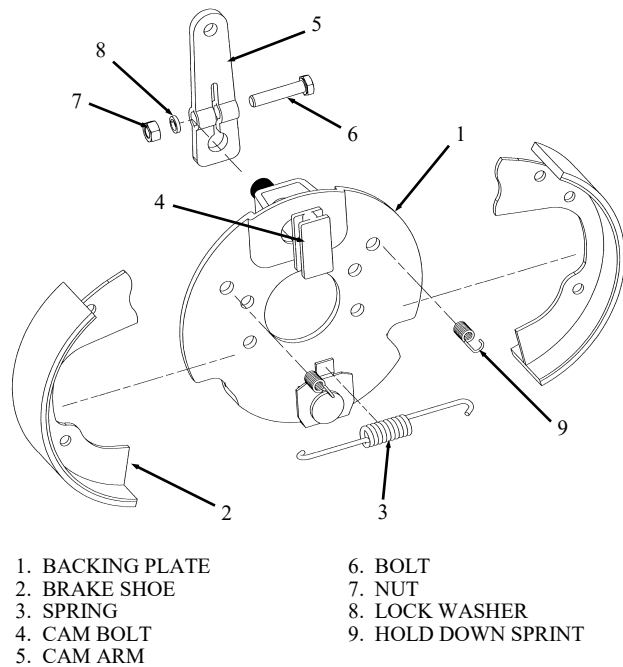
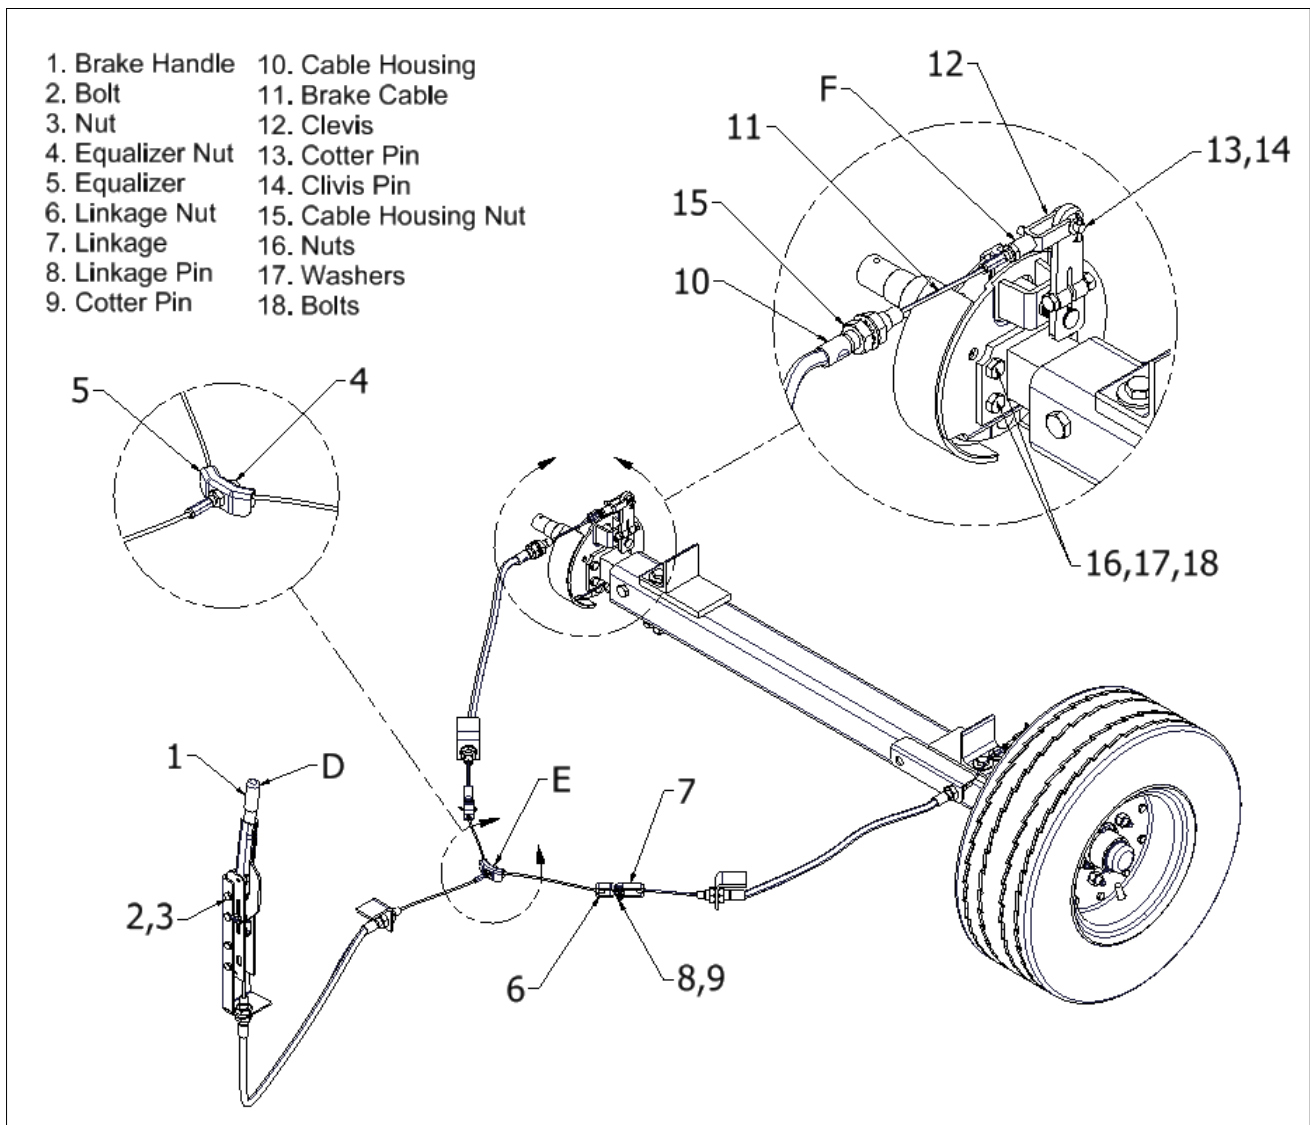

Figure 5-9. Mechanical Parking Brake
Figure 5-11. Brake Handle And Cable Assembly
5.3.4.3.1 Brake Handle and Cable Assembly. The brake handle and cable assembly only need to be disassembled to the point that the repair is needed. These instructions start at the wheel assembly and progress toward the brake handle. (See Figure 5-11).
- Remove cotter pin (13) and clevis pin (14) to release clevis (12).
- Unthread clevis (12) from cable (11).
- Remove nut (15) and remove cable housing (11) from bracket.
- Remove nut at opposite end of cable and disassemble cable linkage parts (6), (7), (8), and (9).
- Remove nut (4) to release cable equalizer (5).
- Remove nut at opposite end of cable and release cable by disassembling cable linkage from brake handle (1).
- Remove bolts (2) and nuts (3) to free brake handle (1).
5.3.4.3.2 Mechanical Brake Assembly. The mechanical brake assembly is disassembled by following the steps described here. The assembly can be disassembled while attached to the rear spindle or removed from the unit. (See Figure 5-9).
- Remove brake cable end from arm (5) as described in Paragraph 5.3.4.3.1, step (a).
- Remove spring (3).
- Release brake shoes (2) by removing springs (9) from the backing plate (1).
- Remove nut (7), lock washer (8), and bolt (6) to release arm (5).
- Remove brake cam (4) by pulling directly outward.
5.3.4.3.3 Parking Brake Adjustment. The parking brake can be adjusted at three different locations. An in-field adjustment can be made at the brake handle by turning the handle cap clockwise to tighten brakes and counter-clockwise to loosen the brakes (See reference arrow D.) This adjustment must be made with the brake handle in the off position. Maintenance level adjustments can be made at reference arrow E and reference arrow F (each side). See Figure 5-11.